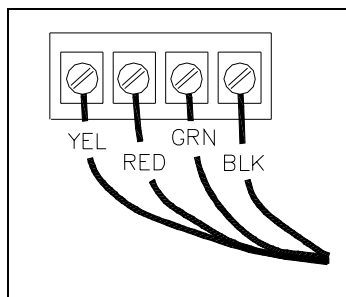

Figure 2. PCBA Connection
3. Reconnect the modular telephone cord to the printed circuit board terminal strip. See Figure 2.